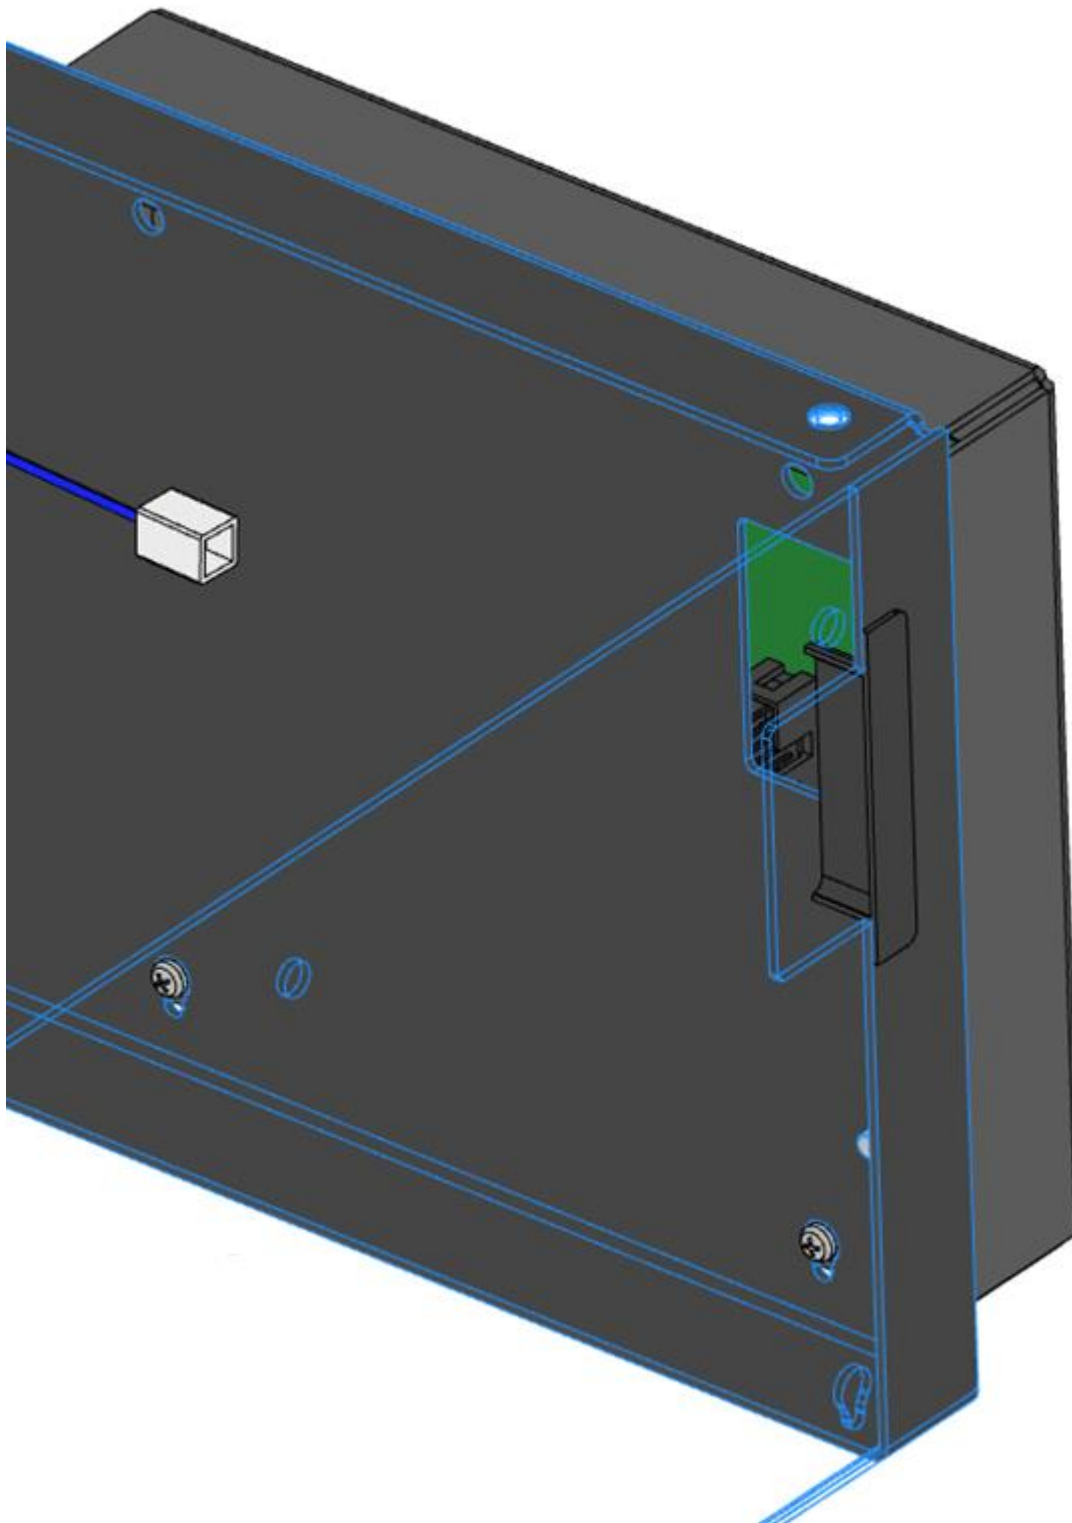

Figure 58 Unlocked lower locking screws
3. Remove the upper 2 screws that fasten the UI box to the base enclosure. Lift the UI box so that the lower locking screw are relived from the key holes (see Figure 58)